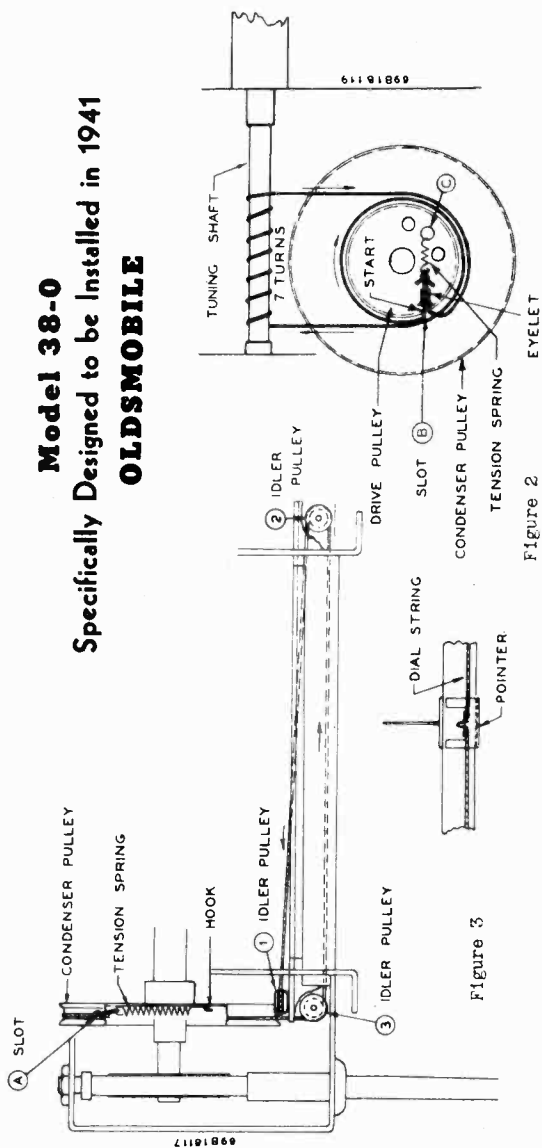

Figure 2
5. Thread one end of cord through slot (B) in drive pulley and with an ordinary paper clip fasten to tuning control bracket so that cord will stay in place.
6. In a clockwise direction, wind cord one full turn around drive pulley and up to tuning shaft. (See Fig. 2). tuning shaft as shown in Fig. 2 and down to drive pulley.
7. Continue in a clockwise direction around drive pulley and through slot (B).
9. Knot the two cord ends together and fasten to one end of spring (Part No. 41A14759). Hook other end of spring to hole (C) in drive pulley.